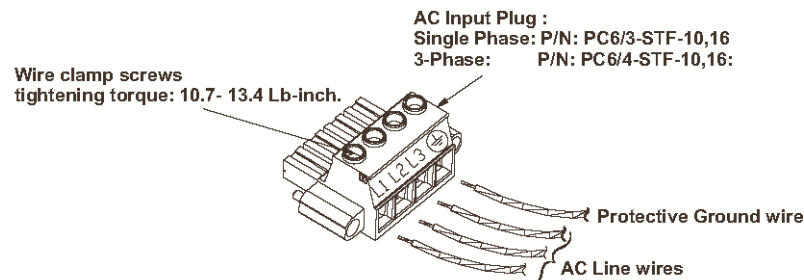

Fig.3-3: AC Input plug (3-Phase shown)
- Connect the AC wires to the terminals of the input plug supplied with the unit. To connect the wires, loosen the terminal screw, insert the stripped wire into the terminal and tighten the screw securely (10.7-13.4 Lb-inch) (1.21 – 1.5Nm) Refer to Fig. 3-3 for details. Pay attention to connect the wires according to the polarity marking on the plug.